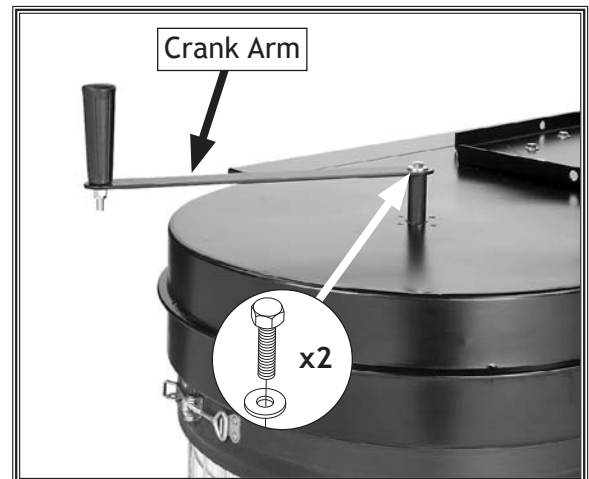

Figure 20. Filter cleaning handle assembly installed.
16. Insert the two filter cleaning handle assemblies onto the cleaning shafts, then secure them with (2) $\frac{5}{16}$ "-18 x $\frac{3}{4}$ " hex bolts and (2) $\frac{5}{16}$ " flat washers, as shown in **Figure 20**.